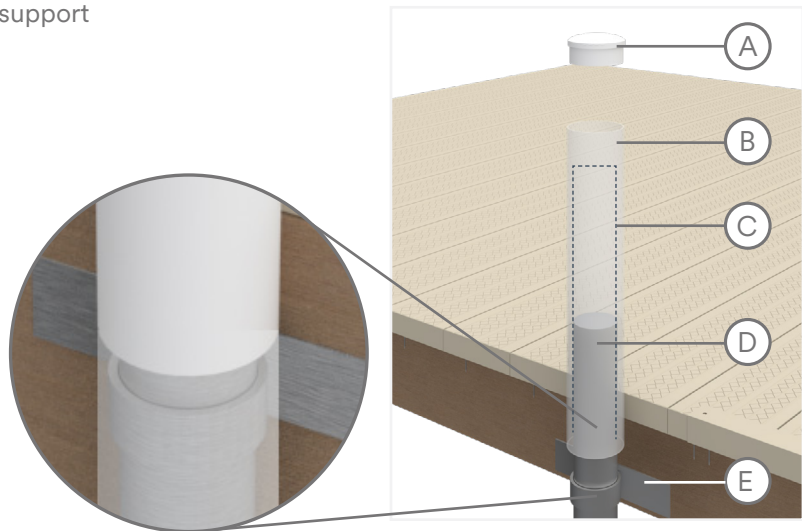

Fig. 21
3. Slide the Post Wrap over the substructure support (Fig. 21).